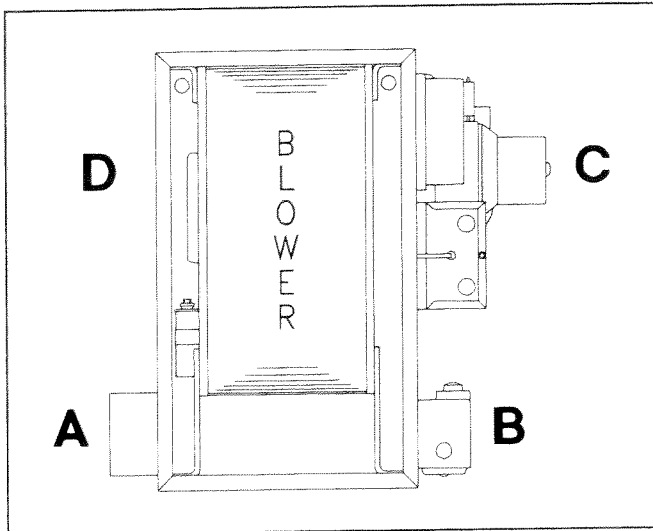

Figure 25. Controls In Reversed Position.
2. Relocating controls and draft inducer from as-shipped position. You may move controls to position "B" and draft inducer and pressure switch to position "C" shown in Figure 25.